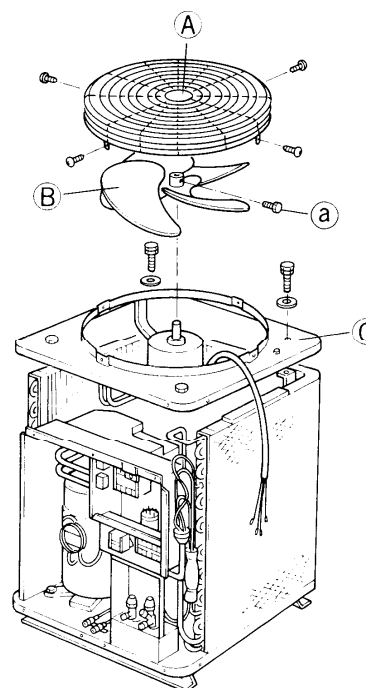

Fig. 18
- 1 ) After removal of the guard (A), loosen the bolt (a) of the propeller fan (B), and remove the fan to the top.
- 2 ) Remove the fan motor wires from the electrical component box, and remove the top cover (C) with the fan motor fixed to the top cover.
- Fig. 18